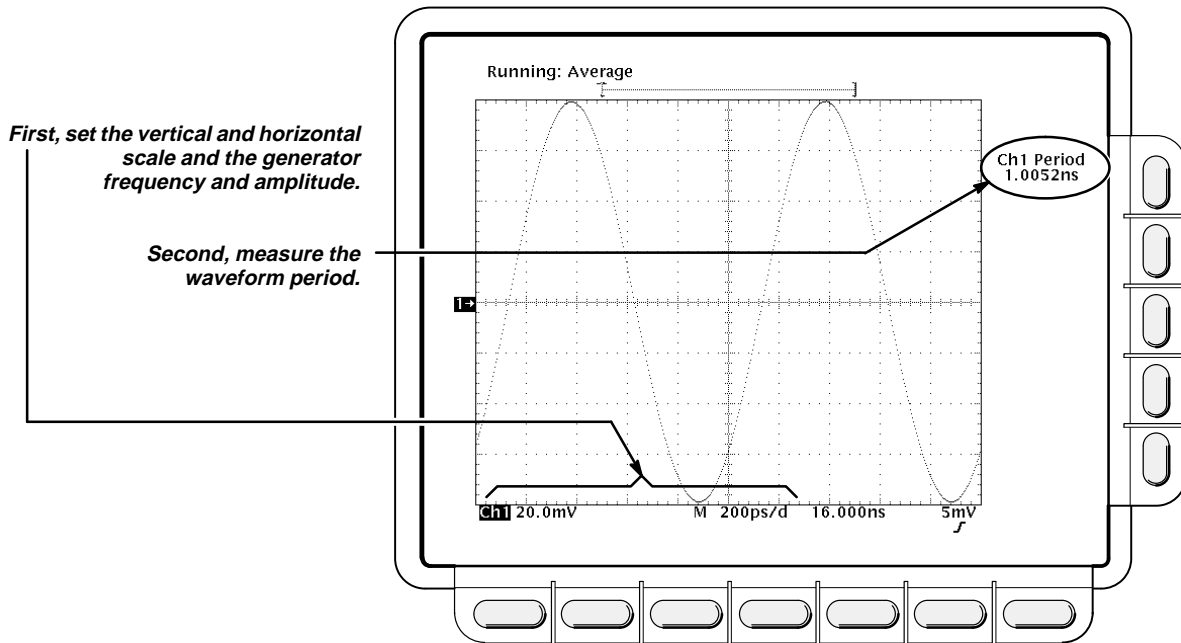

Figure 1-15: Measurement of Accuracy — Single Channel Delta Time Measurement at 1 ns
- CHECK that the period readout is within 984 ps to 1.016 ns (see Figure 1-15).